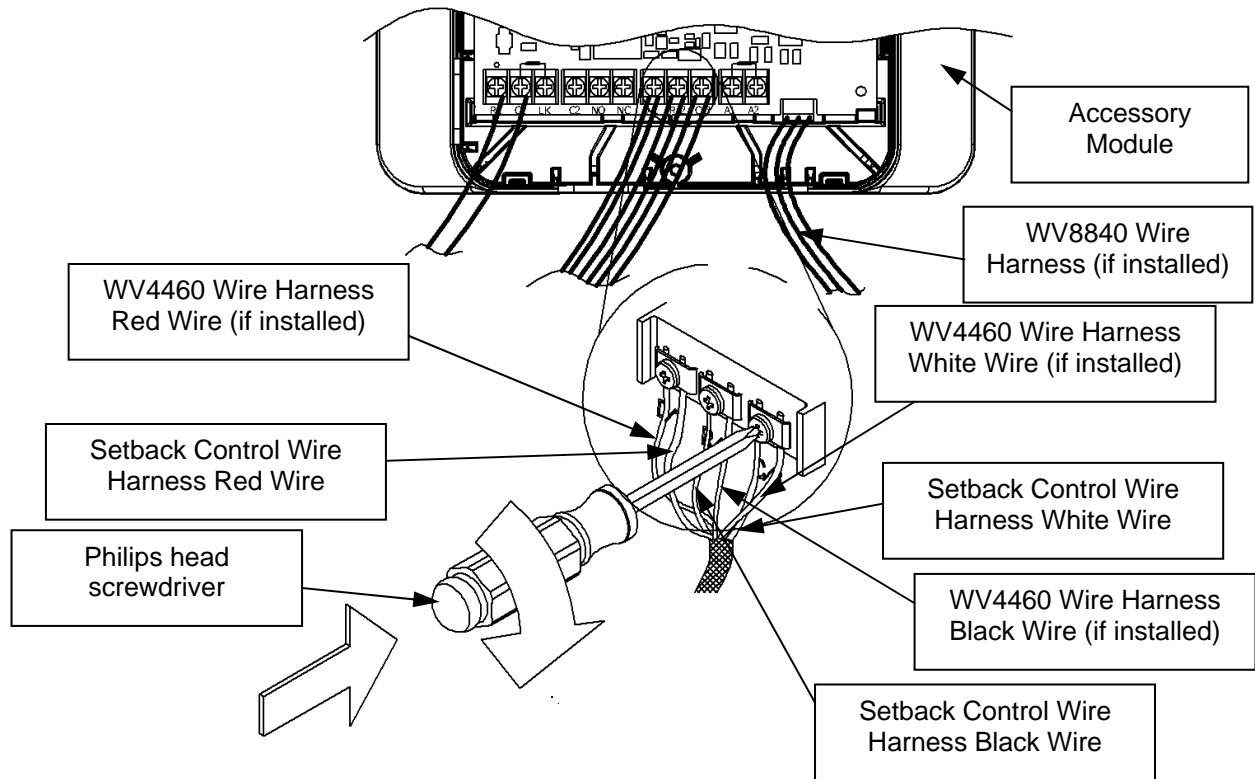

Figure 50
Step 23: Tighten the screw labeled "C/3," as shown in Figure 50.